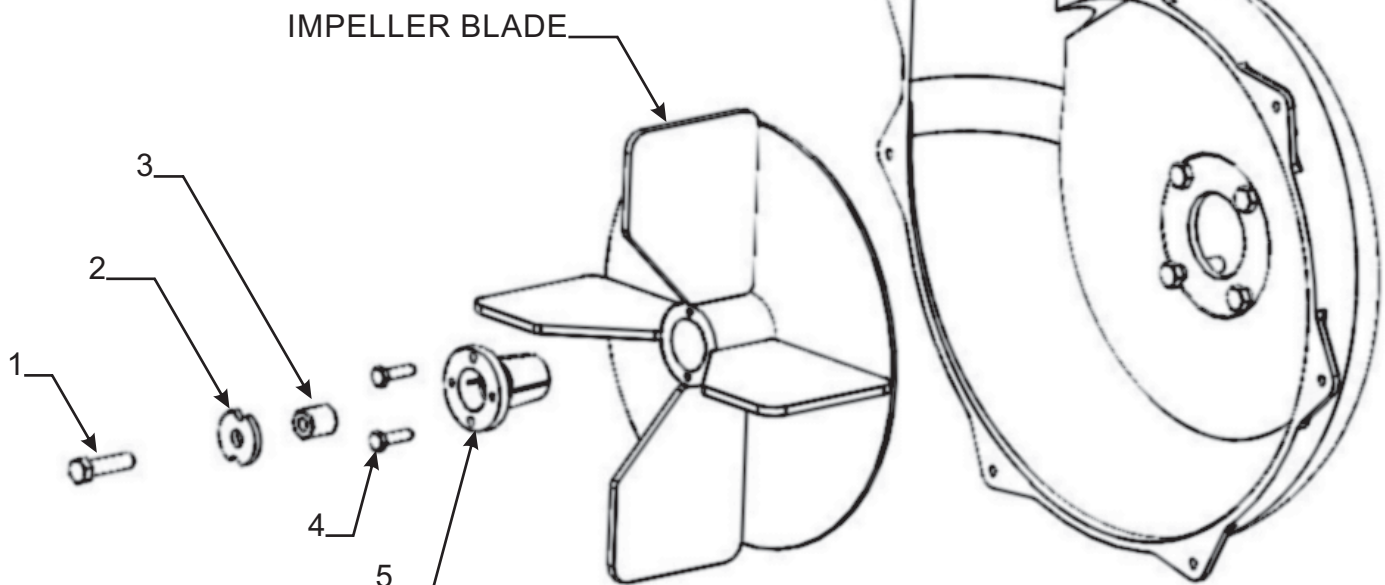

Figure 2-10.
To Remove: First remove the center bolt (#1), washer (#2) and spacer (#3) from the taper-lock bushing (#5). See Figure 2-10. Next remove the (2) 1/4"-20 bolts (#4) and place them into the threaded holes of the taper-lock bushing (next to the holes they were removed from). Gradually thread each bolt evenly into the taper-lock bushing, forcing the blade to break-away from the taper-lock bushing. If the impeller will not move, hit the base of the impeller, between each vein, with a hammer, then try again.